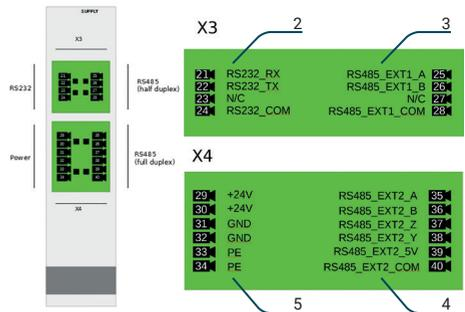
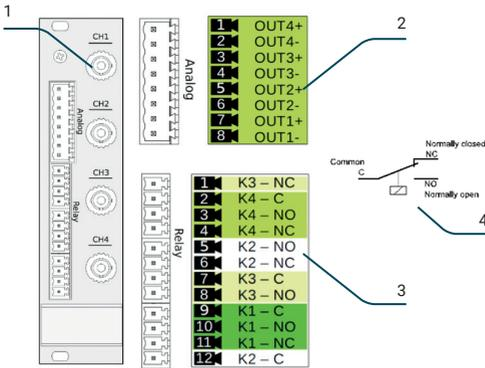

Figure 3: FOTEMP T30 pin layout of supply module sockets
Figure 4: FOTEMP T30 pin layout and relay configuration of measurement module sockets
- Pin layout (Figure 3, Figure 4)